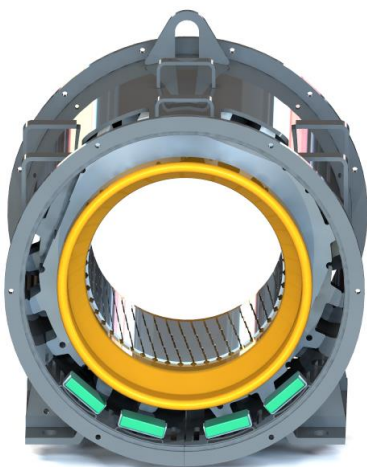

Figure 6.2: Ceramic resistances attached in clamps
6. Attach the ceramic resistance in the metal clamps, according to Figure 6.2.